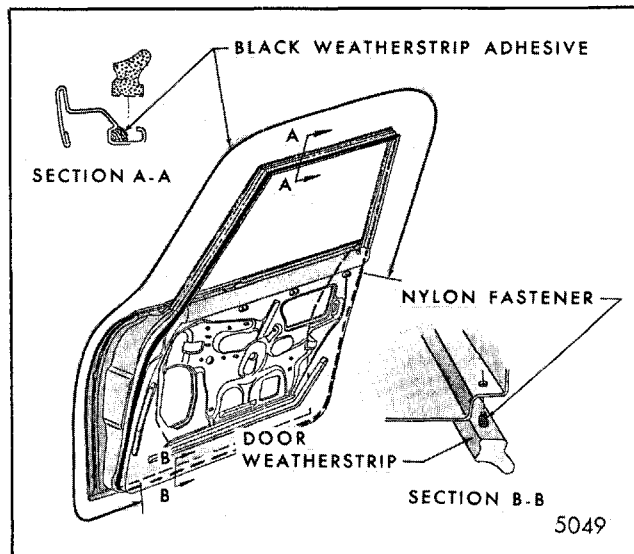
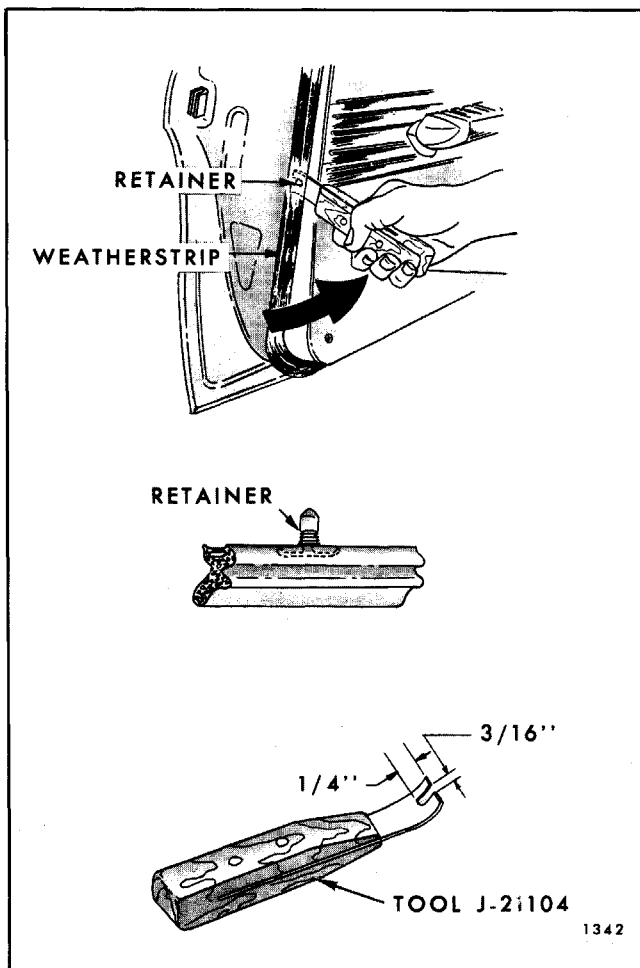
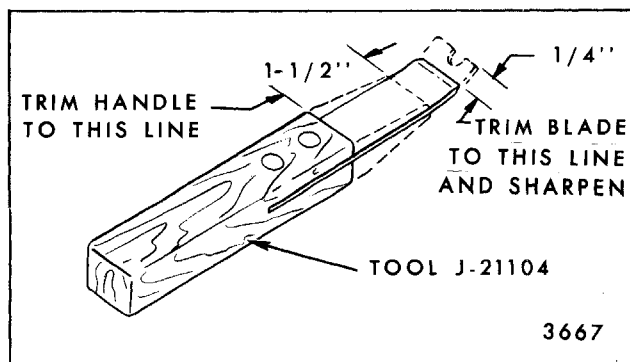

Fig. 5-35-Door Weatherstrip - Closed Styles
Fig. 5-34-Door Weatherstrip Removal
Fig. 5-37-Weatherstrip Removal Tool
Both the front and rear doors use nylon fasteners to retain the door weatherstrips. The fasteners are a component part of the weatherstrip and secure the weatherstrip to the door by engaging piercings in the door panels. The serrations on the fastener also seal the openings from water entry (Fig. 5-34). On closed styles, nylon fasteners are used below the beltline only. Weatherstrip adhesive retains the weatherstrip around the door upper frame (Fig. 5-35). On all styles, in addition to the fastener, weatherstrip adhesive is used at the beltline and down the front door hinge pillar.
To disengage nylon fasteners from door panel piercings use tool J- 21104 or equivalent (Fig. 5-34). This tool permits removal of the weatherstrip without damaging the serrations on the fasteners so that the weatherstrip can be reinstalled if desired. Although a replacement door weatherstrip will include nylon fasteners, individual fasteners are also available as service parts.
2. Use a flat-bladed tool to break cement bond between door and weatherstrip. A tool applicable to this usage can be fabricated from tool J-21104 or equivalent (Fig. 5-37). Weatherstrip adhesive is used for a distance of 7" to 9" on door lock pillar and the entire length of the front door hinge pillar (Fig. 5-35). In addition, on closed styles, weatherstrip is retained by weatherstrip adhesive completely around door upper frame.
3. On closed styles, apply black weatherstrip adhesive around perimeter of door upper frame (Fig. 5-35).
2. Beginning at the front body hinge pillar, carefully pull weatherstrip out of retainer while breaking sealer bond between weatherstrip and retainer with a flat-bladed tool. A tool for this use can be fabricated from tool J-21104 or equivalent as shown in Figure 5-37.